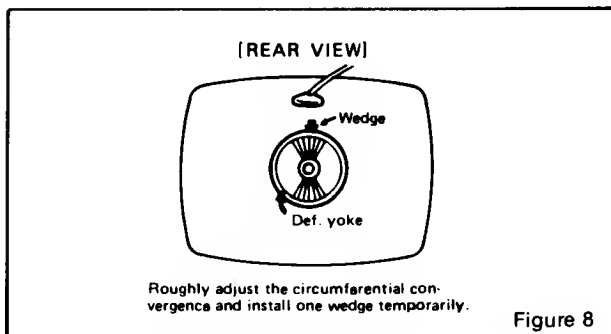

Figure 8
- 2.3 Adjust convergence around the edges of the picture tube by tilting the yoke up-down and left-right, and temporarily install one wedge at the top of the yoke or in a more optimum position. (Figures 8, 9, 10)